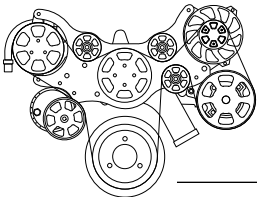

**FIGURE 5: Install Compressor Bracket**
*For kits without power steering continue to Figure 5.*